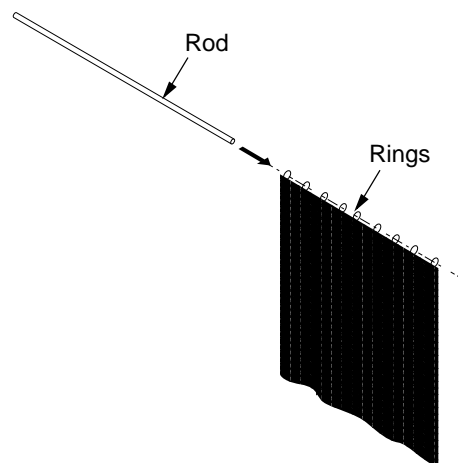
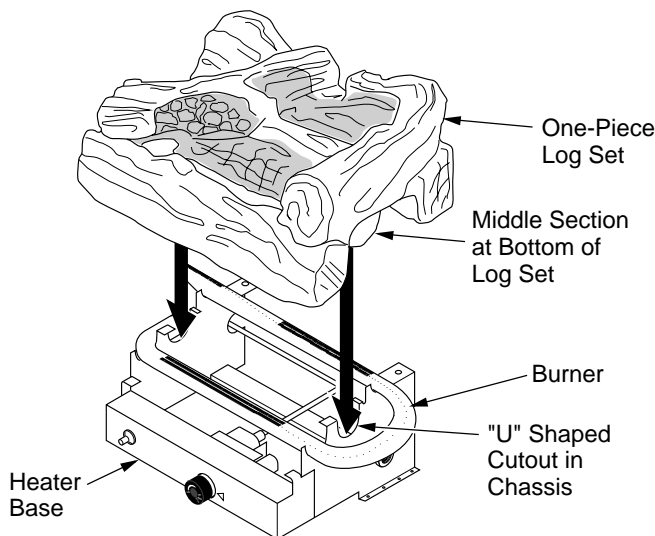

Figure 12 - Assembling Rod and Screen
Figure 14 - Installing One-Piece Stove Log Set
1. Insert rod through small rings located at top of screen (see Figure 12).
1. Set one-piece log on heater base as shown in Figure 12. Make sure middle section at bottom of log is seated into "U" shaped cutout in center of heater base. **IMPORTANT:** Make sure log does not cover any burner ports and does not touch the stove cavity (see Figure 14).
2. Fasten back panel to stove with four (4) bolts and washers removed in step 4 of *Unpacking*, page 6. Make sure product identification label is located on the outside lower left-hand corner.